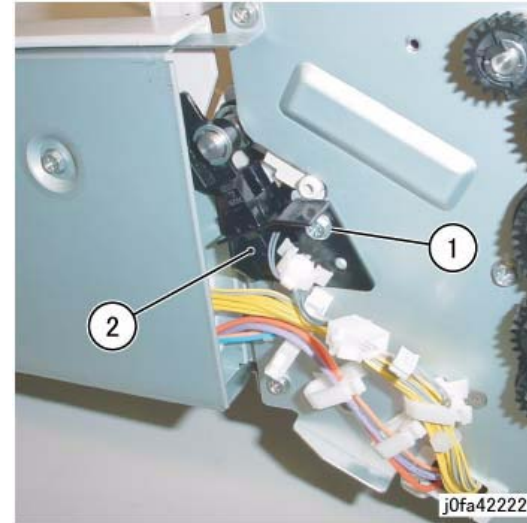

Figure 2 Removing the Set Clamp Home Sensor Assembly
6. Remove the Set Clamp Home Sensor Assembly (Figure 2):